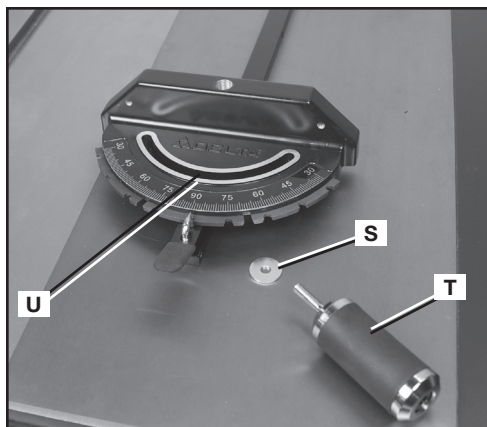

FIG. 15
1. Place washer (S) Fig. 15 on threaded post at end of miter gauge handle (T).